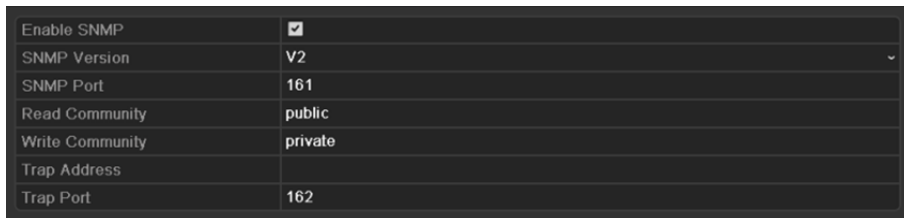

Figure 13-7 SNMP Settings Interface
Step 2 Select the **SNMP** tab to enter the SNMP Settings interface, as shown in Figure 13-7.